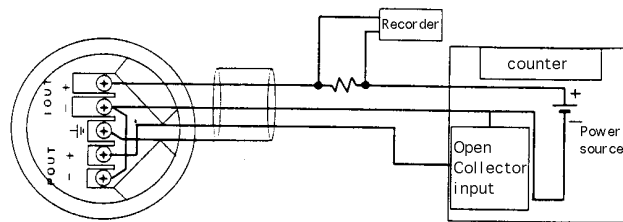

Figure 4. Connection Diagram: Using Pulse or alarm output only
1. Follow Figure 4 to wire cables for the flowmeter, power supply, and external equipment.